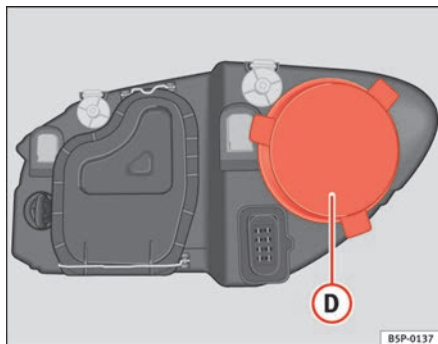

Fig. 164 Side lights
- Remove the cover ⇒ fig. 164 ① by pulling on this.